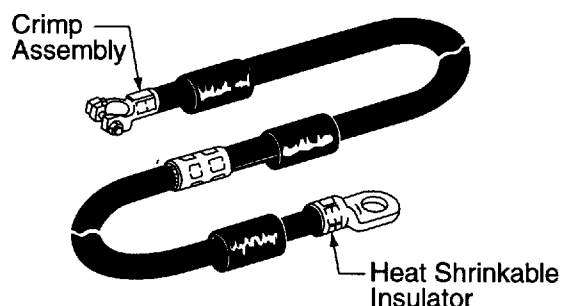

Figure 3
9. If heat shrink insulators are used, they should now be positioned over the barrel of the connector(s), insulator should cover connector barrel and overlap wire insulator by a minimum of 1-1/2". (See Figure 3). Apply heat per instructions packed with the heat shrink insulators.